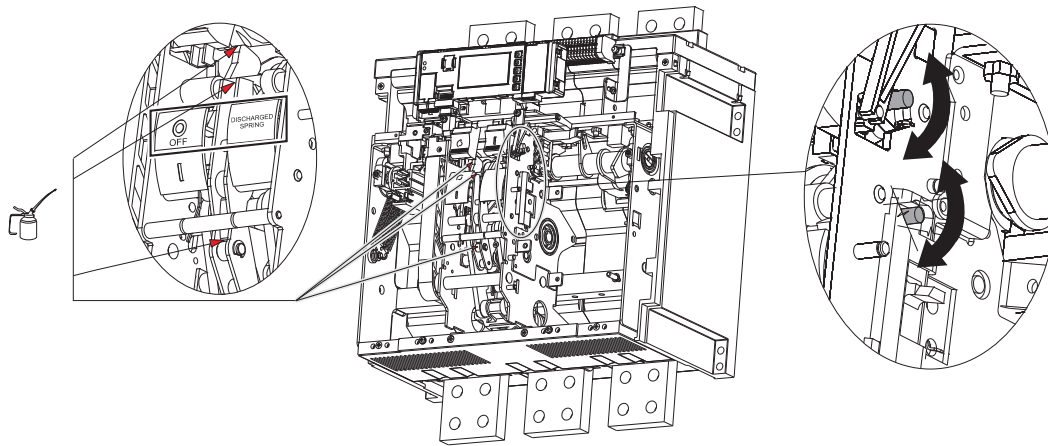

Fig. 21
- Clean the points indicated in figure 21. Use a cleaning product such as Henkel's 273471 or equivalent if there is a heavy coating of dirt.
- Lubricate the opening and closing latches and the shafts in the points indicated in figure 21 with MOBILGREASE 28 (EXXON MOBIL).